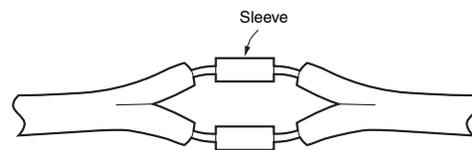

Figure 9
As shown in *Figure 9*, the sensing bands can be inserted from opposite ends of the crimp sleeve to meet in the middle. Either P-1.25 or B-1.25 crimp sleeves can be used but make sure that the crimped section is big enough to fit three folds of the cable conductors.
Connect the sensing band and lead wires using the method described in the previous item (3). Use a B-1.25 crimp sleeve. (Refer to *Figure 9*.)